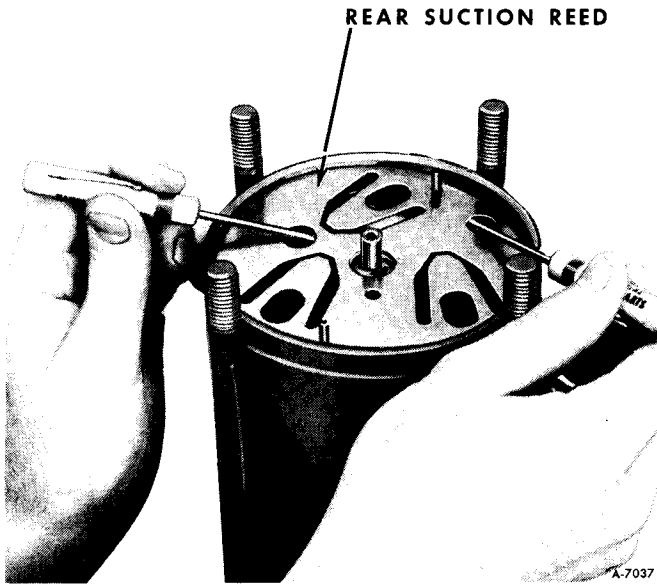

Figure 96—Removing Rear Suction Reed
11. Using two small screwdrivers, carefully remove rear suction reed (figure 96). Do not pry up on horseshoe-shaped reed valves.